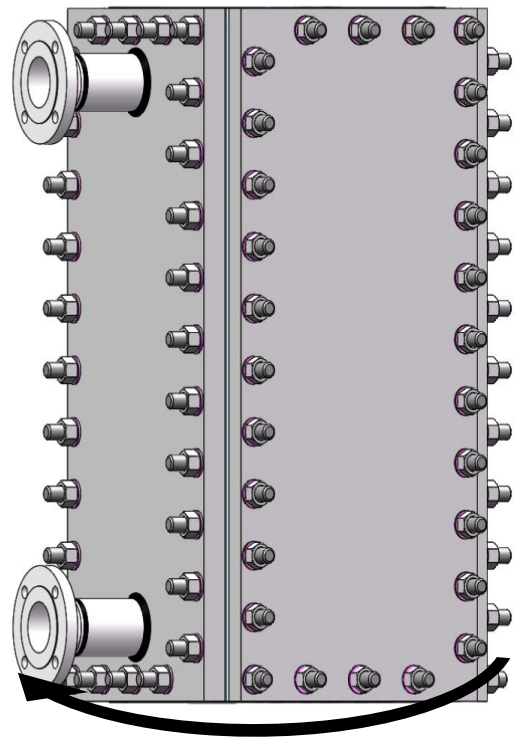

Figure 20
- Respect pre-tightening sense as on figure 20.